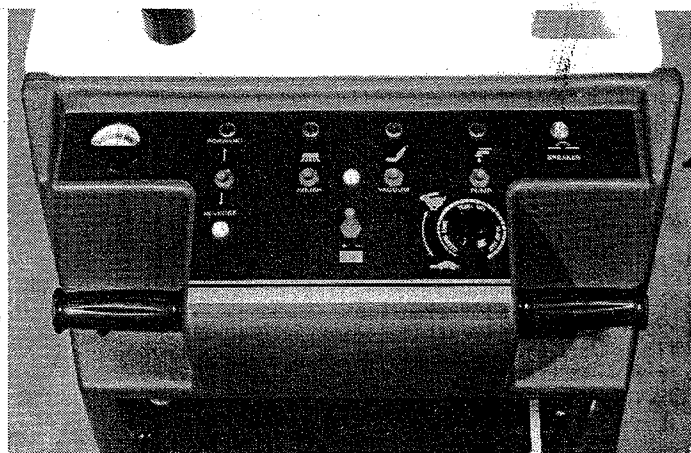

FIG. 4b
- b. **Reverse mode.** (See Figure 4b.) To make the Concorde back up in the reverse mode, adjust the speed control knob counterclockwise to the stop position. Then move the forward-reverse switch to the reverse position, causing the red reverse indicator light to glow. Twist the roll grips backward and slowly rotate the speed control knob clockwise until the Concorde reaches the desired backup speed. The Concorde will require more power to reach a given speed in the reverse mode than in the forward mode. A safety backup resistor protects the operator from accidental fast starts in reverse mode.